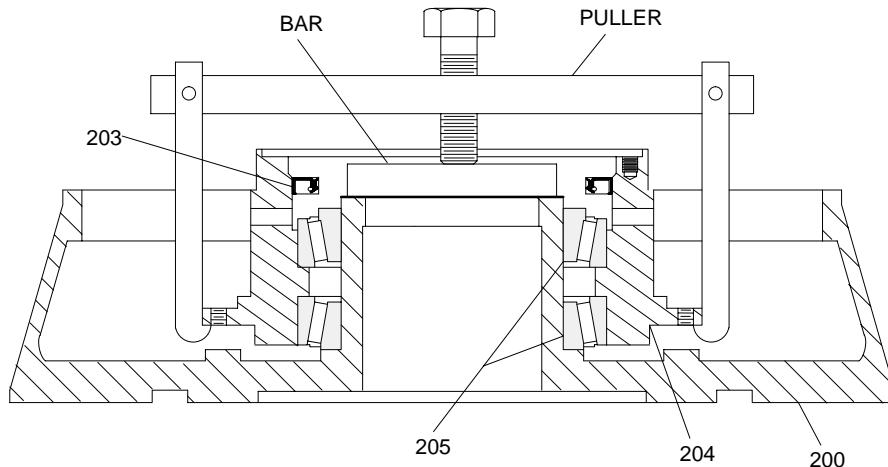

Figure 2
- a . Remove the low speed coupling (220) and impeller shaft (117) per the Shaft Installation and Removal Instructions included in this manual.
- b . Remove gear (210) per Section 2.2 of these instructions.
- c . Remove the low speed bearing retainer (206), the shim set (207) and O-ring (242).
- d . Place a 25mm (1 inch) thick steel rectangular bar of the length listed in Figure 2 across the top of the bearing pedestal of the gear drive housing. Using a large gear puller, pull the low speed gear hub (204) and the low speed bearings (205) off of the bearing pedestal of the gear drive housing. Refer to Figure 2.
- e . Inspect the bearings and replace if necessary. If the bearings are replaced, a new shim set (207) will be required. Using a drift, drive the outer races from the bearing pedestal. The inner race and rollers of the lower low speed bearing can be removed from the bearing pedestal of the gear drive housing by using a puller on the bearing cage. Only do so if you have determined that the bearing must be replaced, since the puller will damage the bearing.